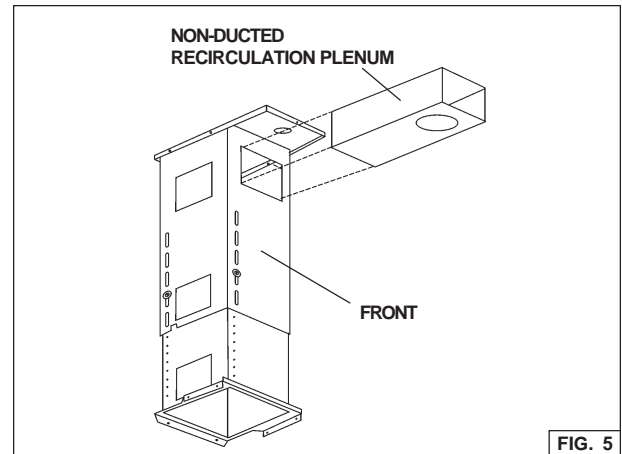

FIG. 5
1. Insert the non-ducted recirculation plenum through the support frame openings. Fig. 5.